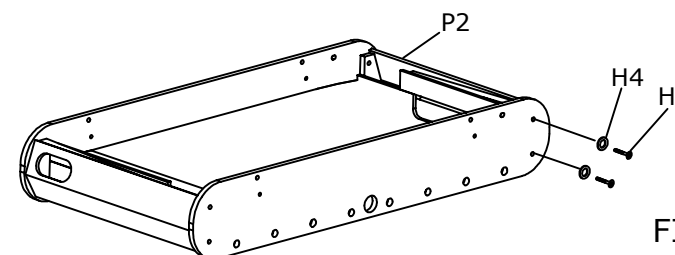

FIGURE 2
- Attach the two end panels **P2** to the side panels **P1** as shown in **figure2**. Remember the groove must face towards the playfield. Attach the end panels with bolts **H1** and washers **H4** into the pre-installed dowel connectors. Tighten all hardware at this time.